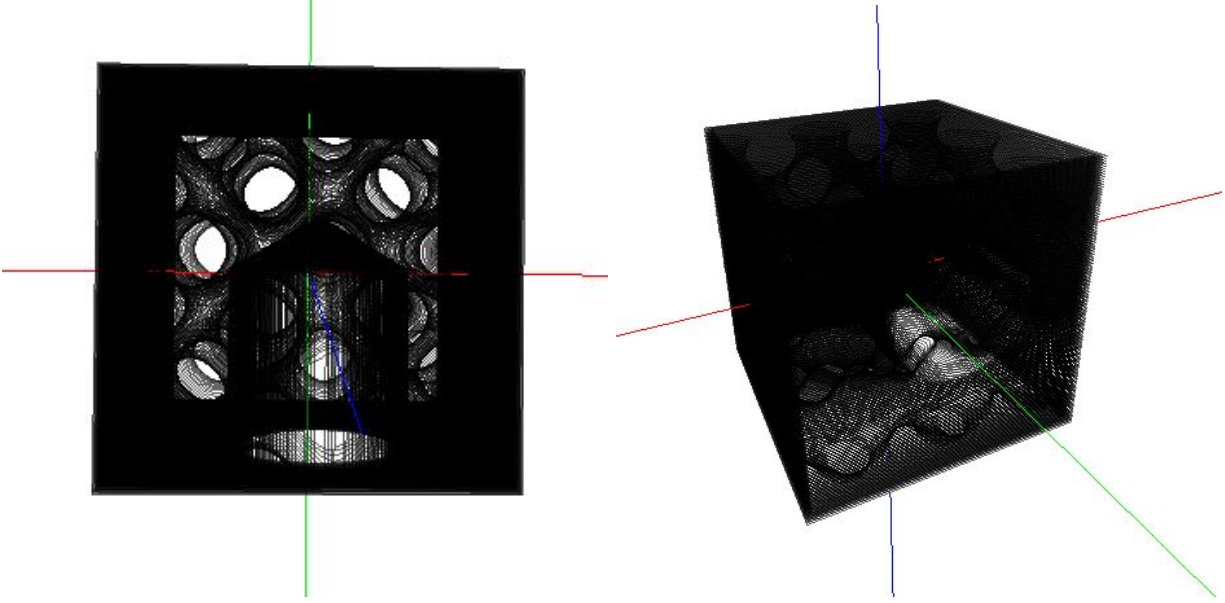

Figure 4: G-Code Visualization of Drilled Cube
- By using <https://gcode.ws/>, I checked the g-code and it is shown as successful. In Figure 4. it can be observed.